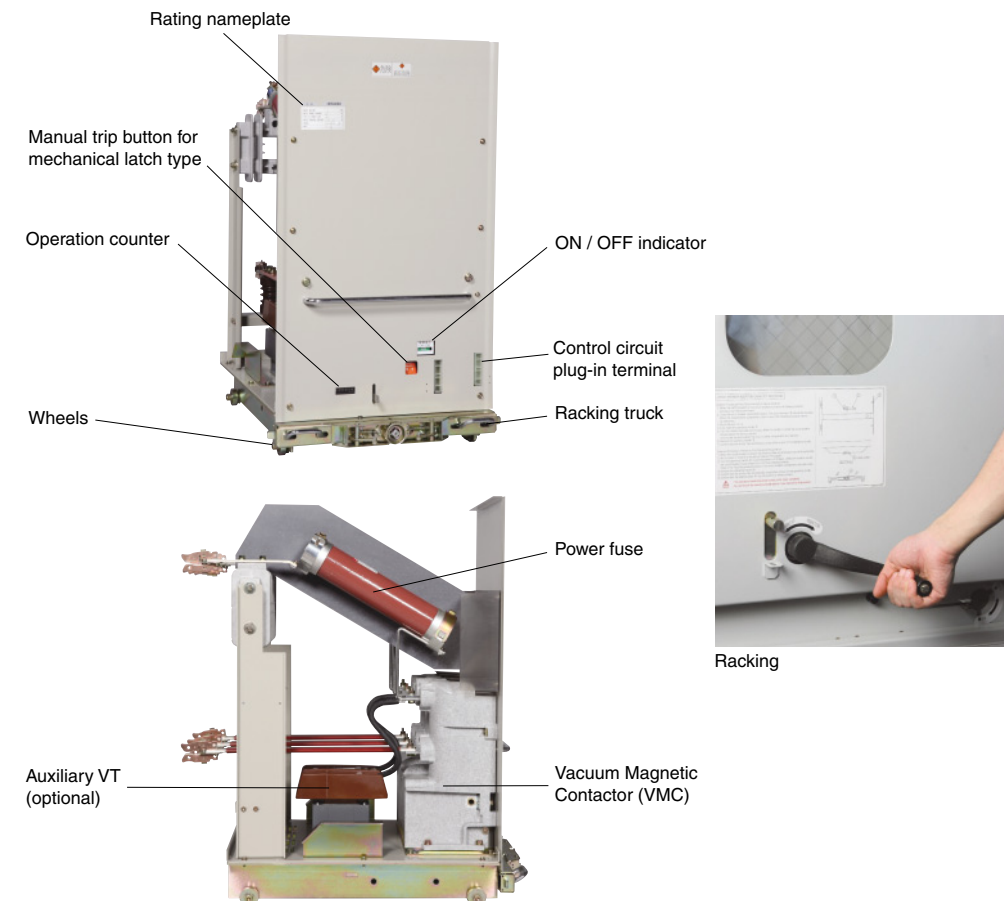

Figure 4-4 Fused vacuum contactor details
- The fused vacuum contactor is easy to operate, with the manual trip button for mechanical latch type, the operation counter and mechanical ON / OFF indicator all being located on the front of the fused contactor. (See Figure 4-4.)
- The fused contactor can be easily drawn out or inserted by a simple rotation action. (See Figure 4-4.) This is accomplished with the fused contactor compartment door closed. Unauthorised racking can be prevented by padlocking the shutter for the draw-out handle aperture.
- The control circuit terminal of the fused contactor is of manual connection type. The connector (see Figure 4-4) can be only attached when the fused contactor is in the *Test/Disconnected* position, and has the following mechanical interlocks.